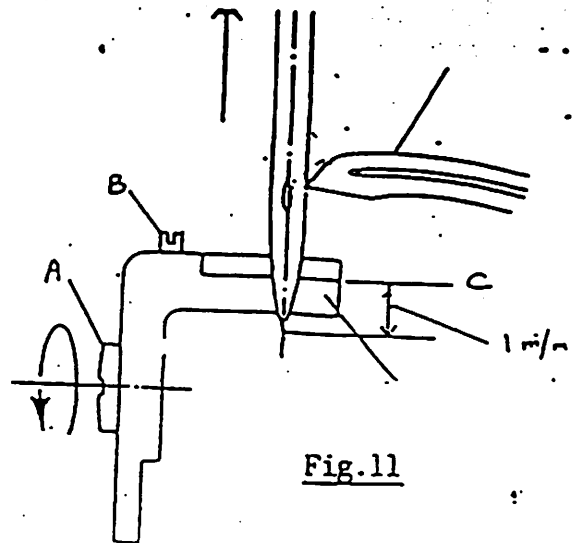

Fig.11
13) Setting needle guard (Fig.11)